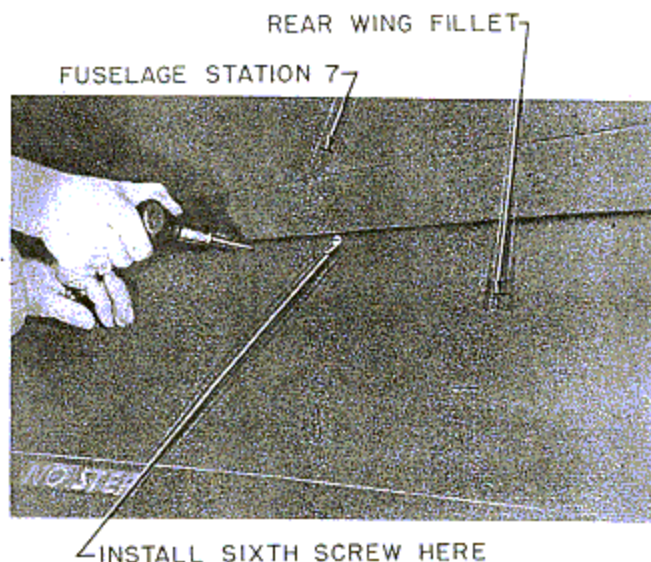

Figure 88—Installing Rear Wing Fillet—Step 3
3. Install screws along panel, working from the trailing edge forward as shown in figure 88. In some cases it will be necessary to enlarge the holes in the fillet.